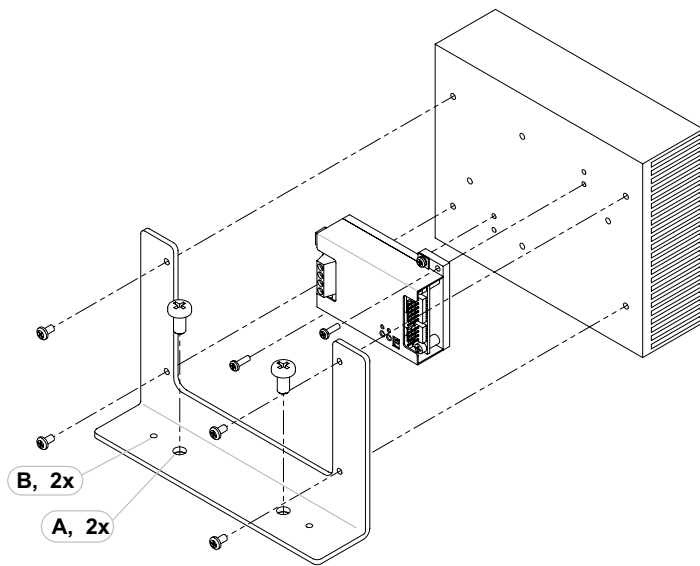
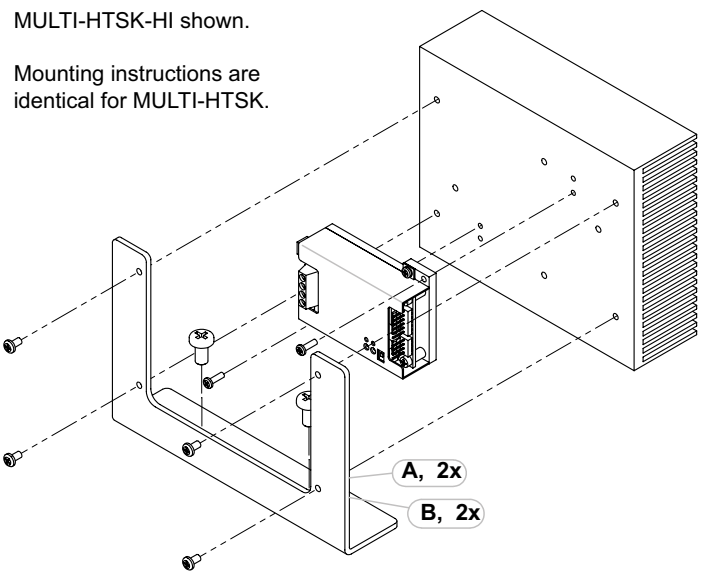

Figure 1. Mounting Option One
Figure 2. Mounting Option Two
The heatsink can be mounted to the bracket in two different ways, illustrated in the exploded views of **Figure 1** and **Figure 2**.
- If the heatsink is mounted on the side opposite the bracket foot, per **Figure 1**, the heatsink can be attached to the bracket before the bracket is mounted to the bench.
- If the heatsink is attached on the same side as the mounting foot, as in **Figure 2**, first mount the bracket to the benchtop before attaching the heatsink.